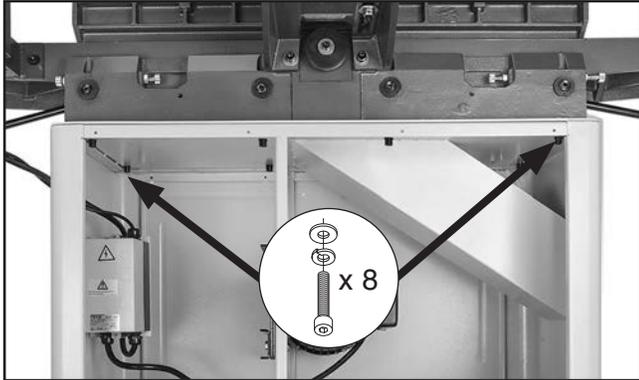

Figure 17. Jointer assembly attached to stand.
- Attach jointer assembly to stand with (8) M8-1.25 x 20 cap screws, (8) 8mm lock washers, and (8) 8mm flat washers, as shown in **Figure 17**.